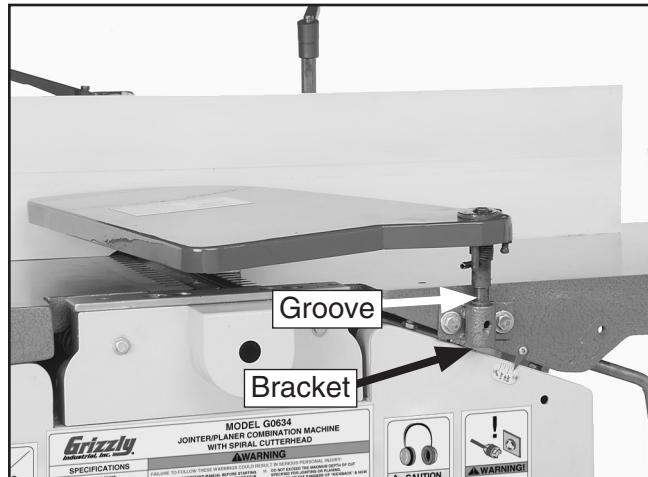

Figure 13. Installing cutterhead guard.
1. Remove the shaft lock knob and insert the cutterhead guard shaft into the bracket hole as shown in **Figure 13**.
3. Thread the lock knob into the bracket so the threads fit into the shaft groove (**Figure 13**), and secure the guard into place. Adjust the guard and lock knob as needed so the guard fully covers the cutterhead.